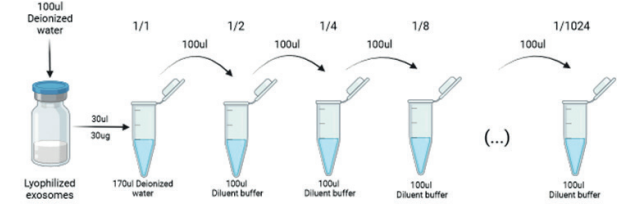

Figure 2: Graphical Representation of the serial dilution of the Standard included in the kit.
3. We need to mix 200 µl from Eppendorf n°1 (1/1 dilution) to Eppendorf n°2 (1/2 dilution). Repeat this process until the 1/1024 dilution is completed (figure 2). Last well should contain only diluent buffer. This is the point that we will use as blank.